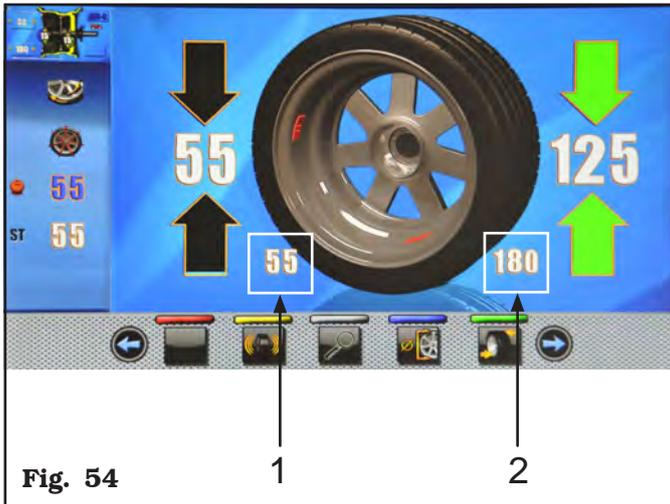

Fig. 54
In this screen page, in addition to the information of the detected unbalance, there are measurements in mm where you must remove the gauge arm (Fig. 54 ref. 1-2) to apply the weights inside the rim.